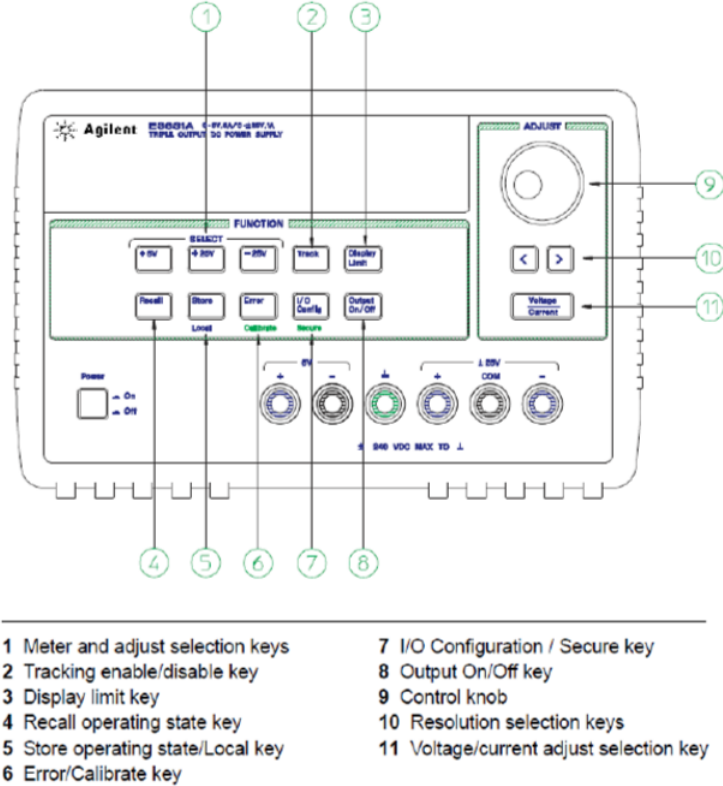

Figure 2: Agilent E3631A DC Power Supply.
In this lab, we used Agilent E3631A DC Power Supply (Figure 2) as our DC source. To set up the power supply for constant voltage (CV) operation, we did as follows.